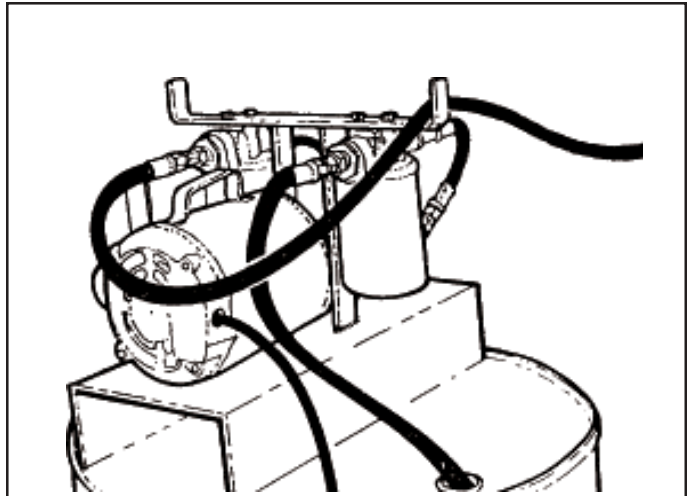

Figure 17
11. Avoid hydraulic contamination by filtering the hydraulic oil while filling the hydraulic tank. Filter buggies or carts are commercially available for hydraulic system cleanup. These consist of a high-efficiency, high-capacity filter, a circulating pump, a drive motor, and hoses for connecting to the overhauled machine's hydraulic system. (See Figure 17 & 18)
When adding hydraulic oil, use only new oil from a sealed barrel. Used oil or oil from an open barrel may contain high levels of contamination. Transfer the new oil into the hydraulic tank by using a hydraulic filter pump unit equipped with a properly operating 10 micron filter. This will insure that the oil being added is clean. Do not just pour the oil directly into the hydraulic tank since most oils (even from a sealed barrel) have contaminants that should be removed, before operating the hydraulic system. (See Figure 17 & 18)